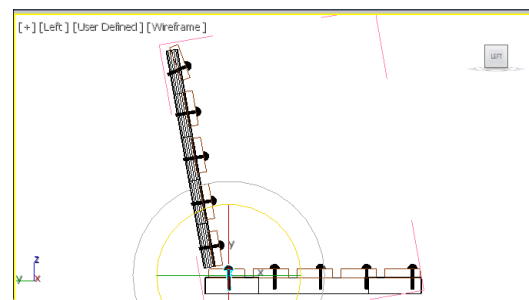

Figure 2-95 Rotating rivet in the Left viewport
11. Select the rivet which is near *horizontal back support* and choose the **Select and Rotate** tool. Move the cursor over the Z-axis. Now, press the left mouse button and drag the cursor in the clockwise direction to rotate it until the angle of rotation in the Z spinner in the coordinate display becomes around **-15**, refer to Figure 2-95.